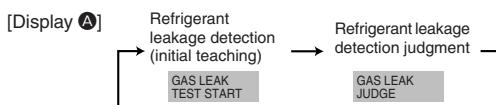

Fig. 8-2
- Press **② CLOCK** button and select the [GAS LEAK TEST START] (Fig. 8-2)